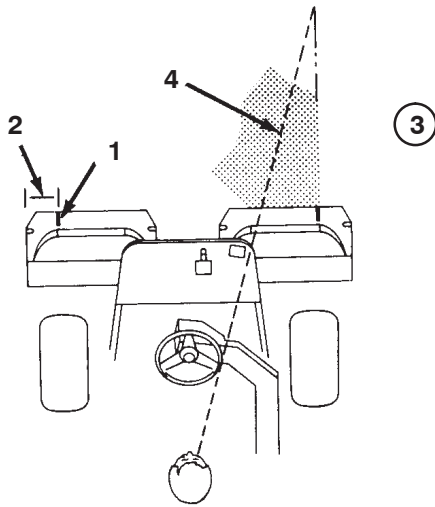

Figure 25
2. Either place a strip of white tape or paint a line onto each basket paralleling the outer edge of each basket (Fig. 25).
3. Overlap a minimal amount with the previous cut on return passes. To assist in maintaining a straight line across the green and keep the machine an equal distance from the edge of the previous cut, establish an imaginary sight line approximately 6 to 10 ft. (1.8 to 3 m) ahead of the machine to the edge of the uncut portion of the green (Fig. 25 and 26). Some find it useful to include the outer edge of the steering wheel as part of the sight line; i.e. keep the steering wheel edge aligned with a point that is always kept the same distance away from the front of the machine (Fig. 25 and 26).